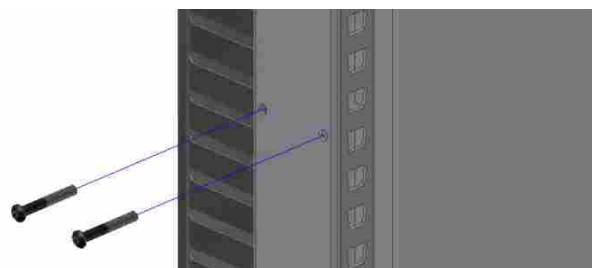

Fig 5
B) Screw the **grooved bar** tightly to the **side** using **M6x45/55 ISO7380 Allen screws** (Fig.5).